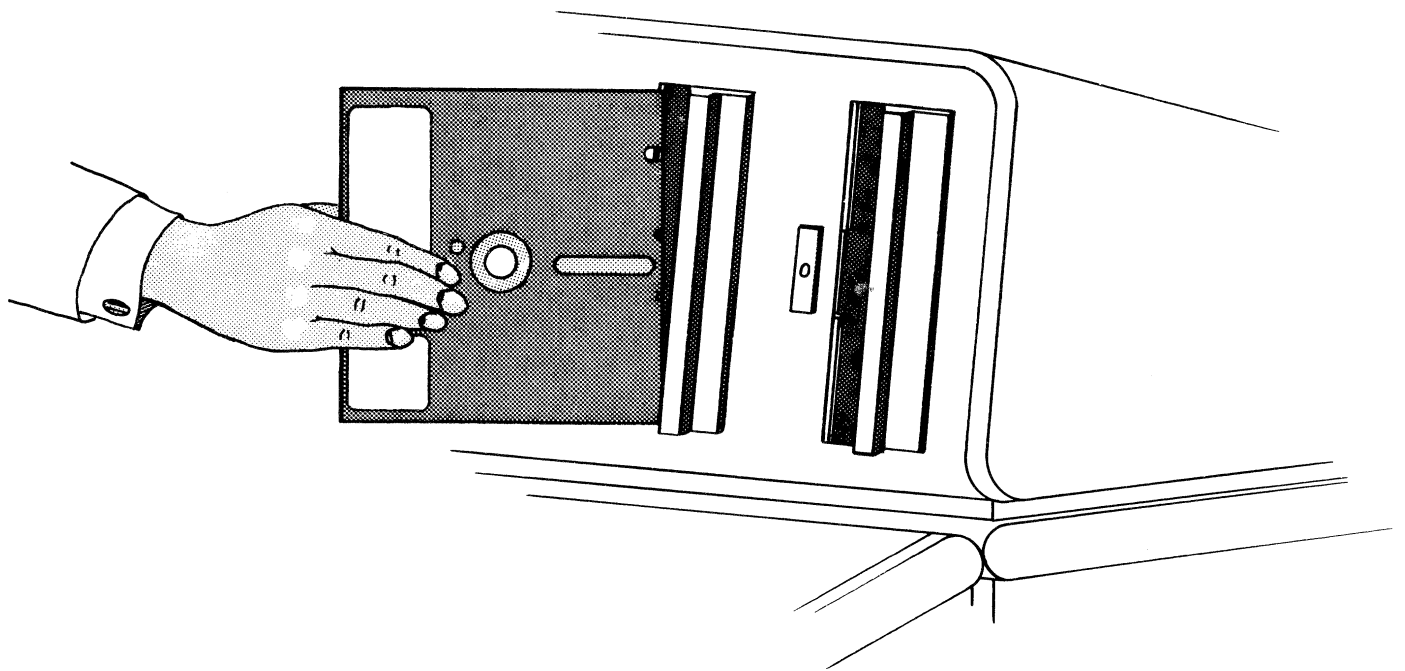

FIG 2/4
- 2.10.1 If the Disk Drive's loading slot is closed, press the illuminated indicator's back plate. The loading slot's cover should now spring open. (see Fig. 2/2b or c)
**2.10.2** Hold the Diskette as shown in Fig. 2/4.